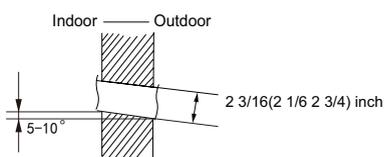

Fig.2
(2) Open a piping hole with the diameter of 2 3/16,2 1/6,2 3/4inch on the selected outlet pipe position.In order to drain smoothly, slant the piping hole on the wall slightly downward to the outdoor side with the gradient of 5-10°.(As show in Fig.2)